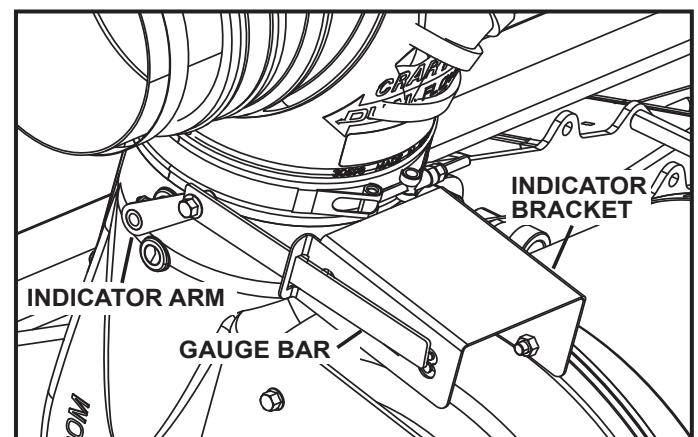

Figure 56: Damper Installed
3. Install and attach orange indicator bracket using the two removed 3/8" bolts at top of fan casting (Figure 56).
5. Using the hardware from the arrow indicator, mount link weldment on fan damper. Ensure that gauge bar is inserted in slot in indicator bracket so that the bar shows the damper position on the scale (Figure 56).